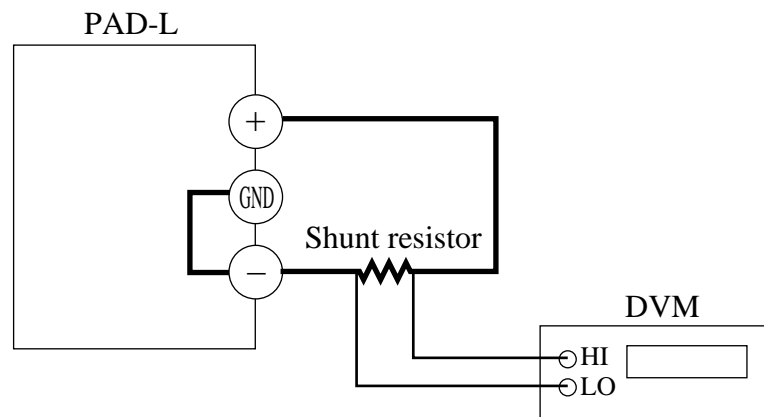

Fig. 6-8 Connection for current system adjustment
2. Connect a shunt resistor and DVM to output terminals as shown in Fig. 6-8.